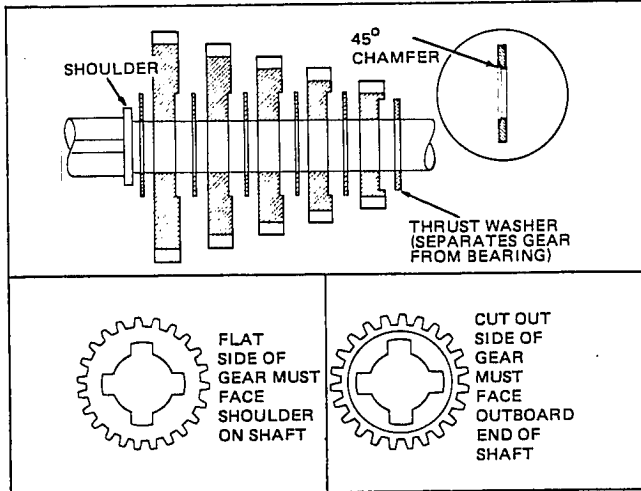

Figure 3-29
3. When ready to install thrust washers and shifting gears on output shaft as shown in the upper view in Figure 3-29. The 45° chamfer in the inside diameter of the thrust washers MUST face the shoulder on the output shaft. See inset in Figure 3-29. The flat side of the shifting gears ALWAYS face the shoulder on the output shaft.